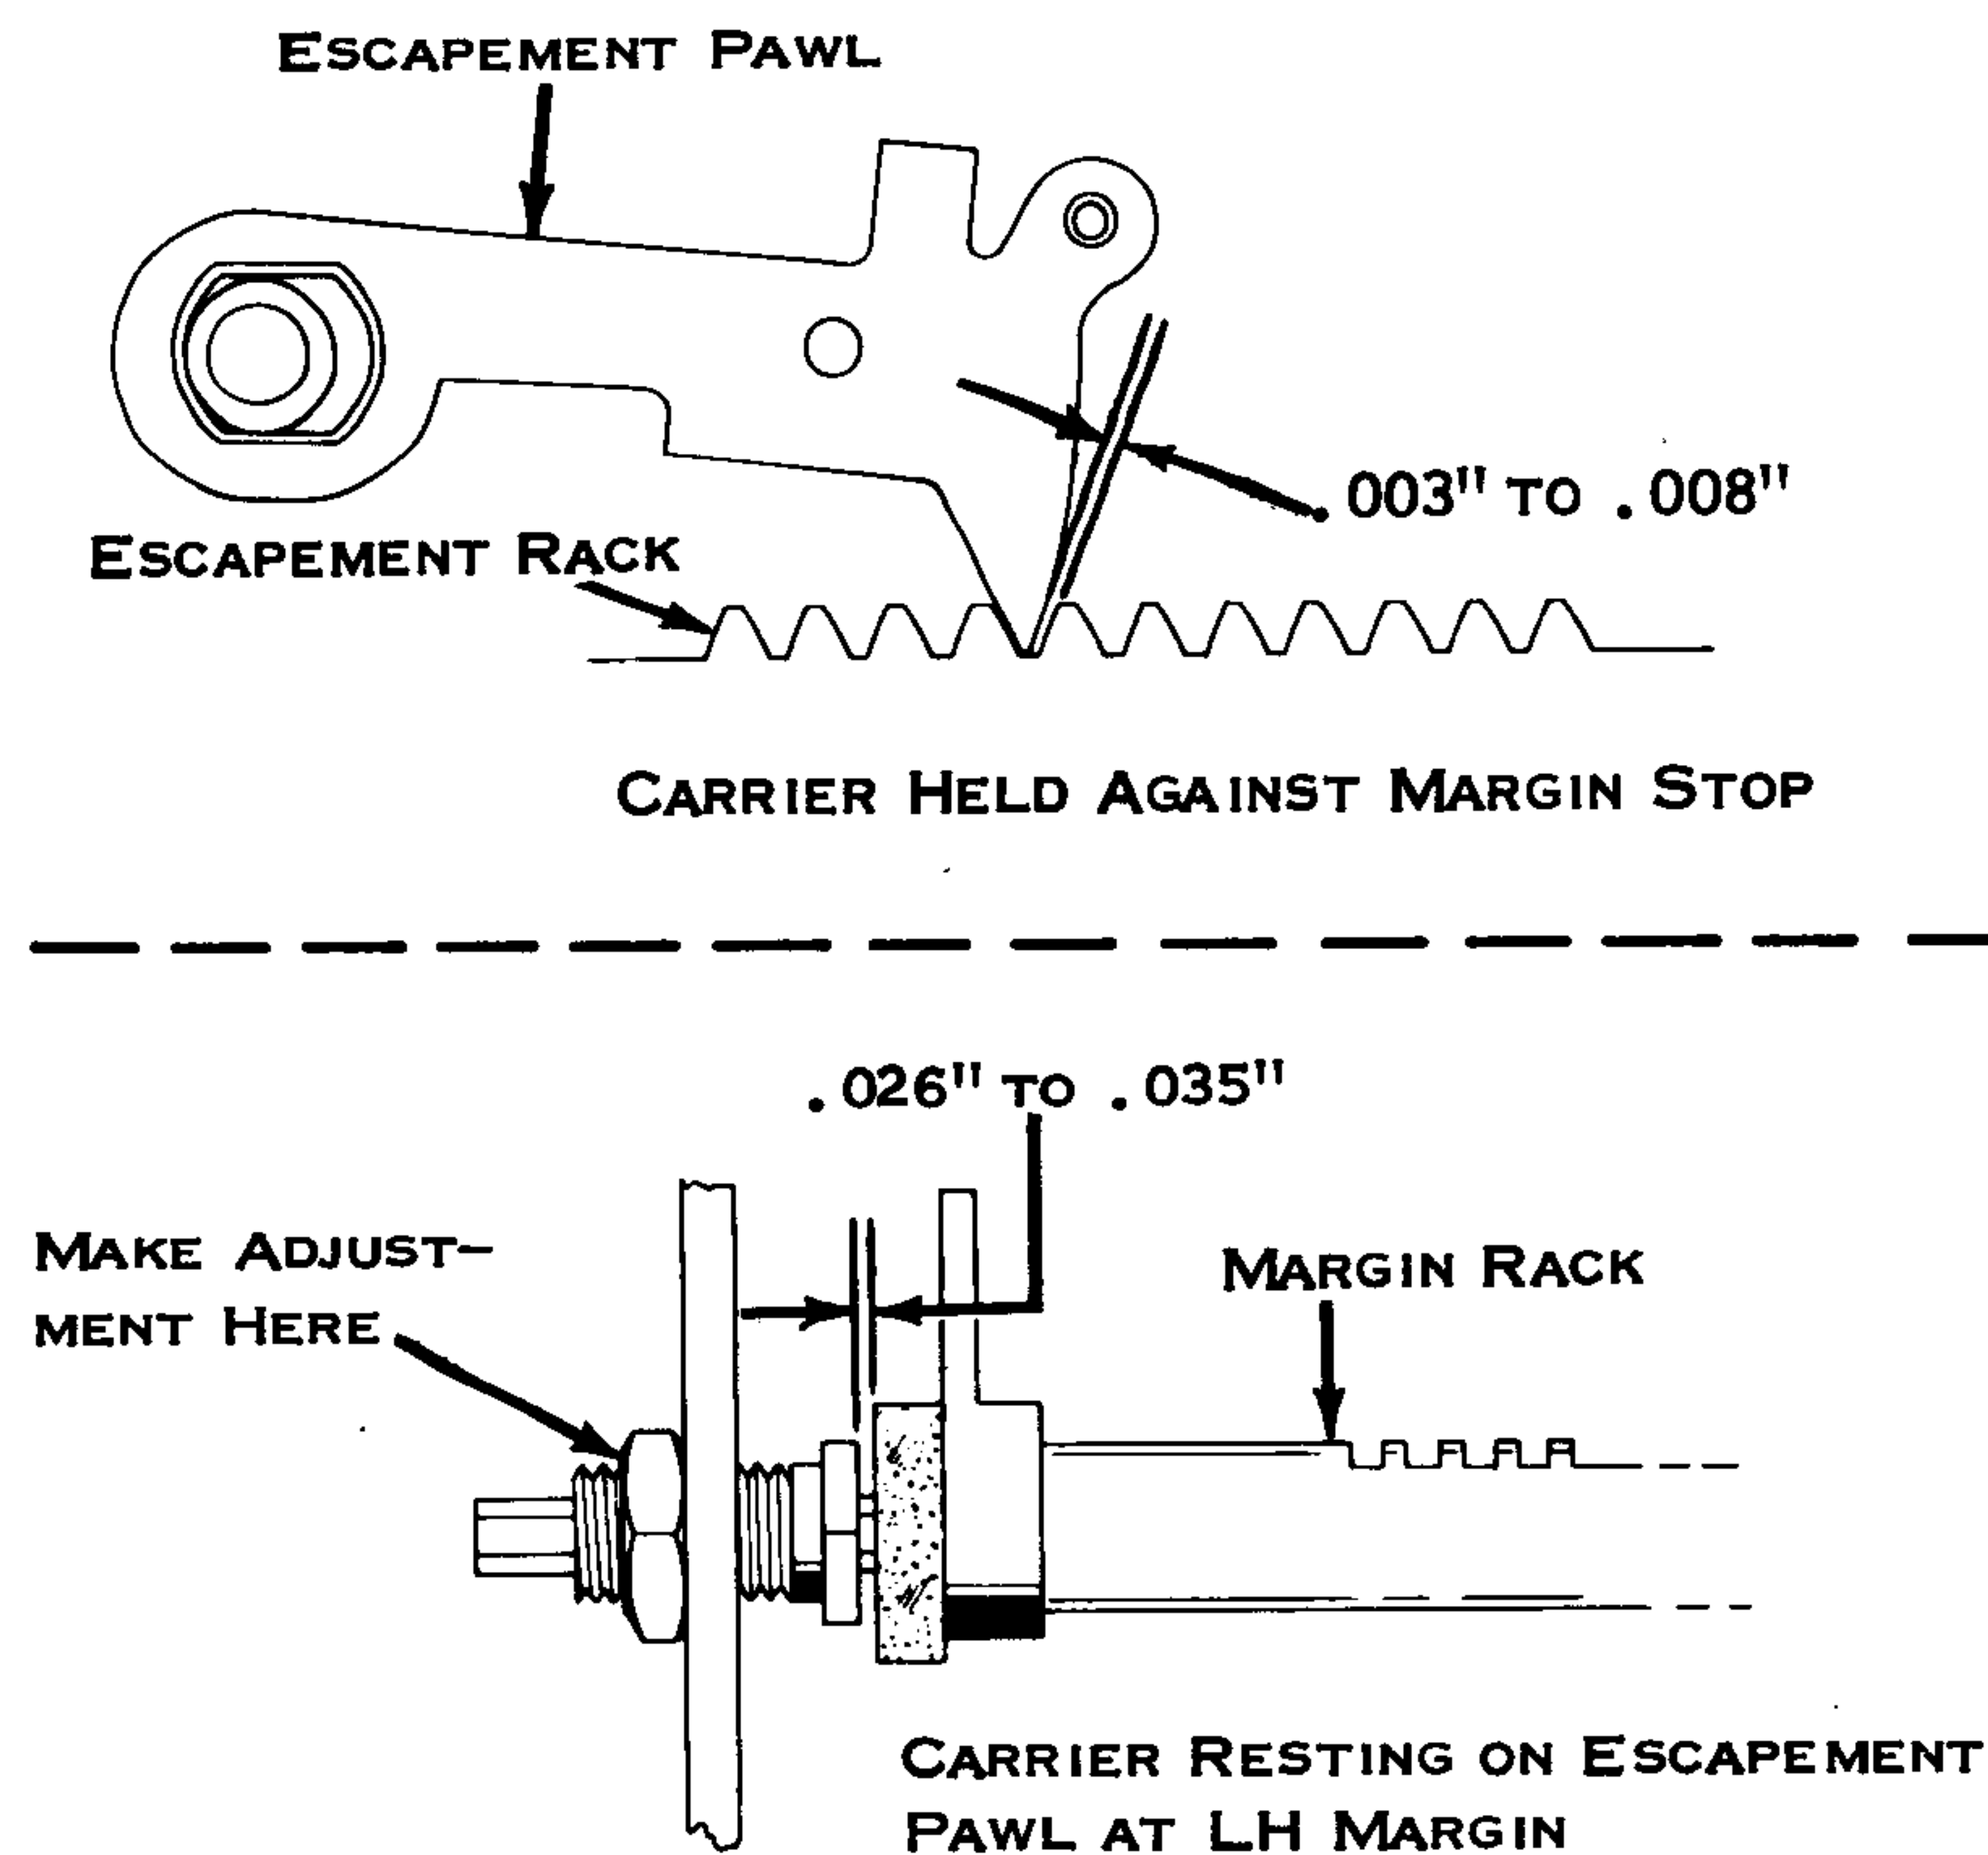

Figure 183. Overbank
- Overbank (Fig. 183) - Adjust the left hand margin rack bushing so that when the carrier is held fully to the left against the margin stop, a clearance of .003" to .008" will exist between the working surface of the escapement pawl and the escapement rack tooth. This adjustment can be made by obtaining .026" to .035" (with carrier